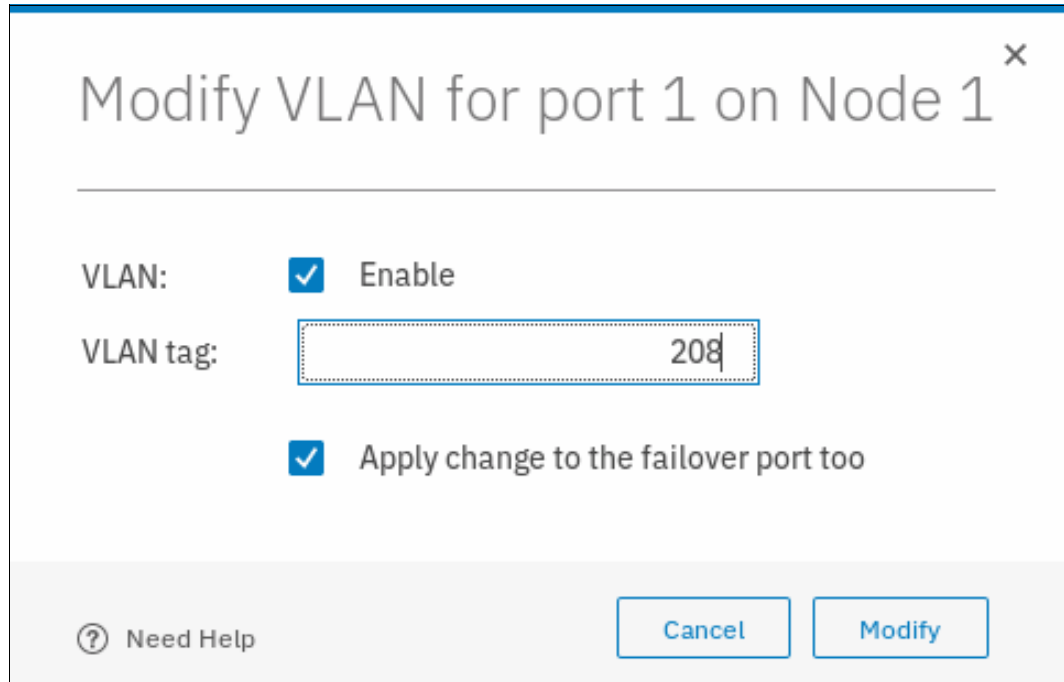

Figure 5-64 Modifying VLAN settings for Port 2 of Node 1
9. To modify virtual LAN (VLAN) settings, select the port again, click **Actions** and then, click **Modify VLAN**. The window that is shown in Figure 5-64 on page 277 opens. Select **Enable** to turn on VLAN tagging and set the tag in the field that is provided. Because the failover port must belong to the same VLAN, leave **Apply change to the failover port too** as selected. Click **Modify** to confirm.